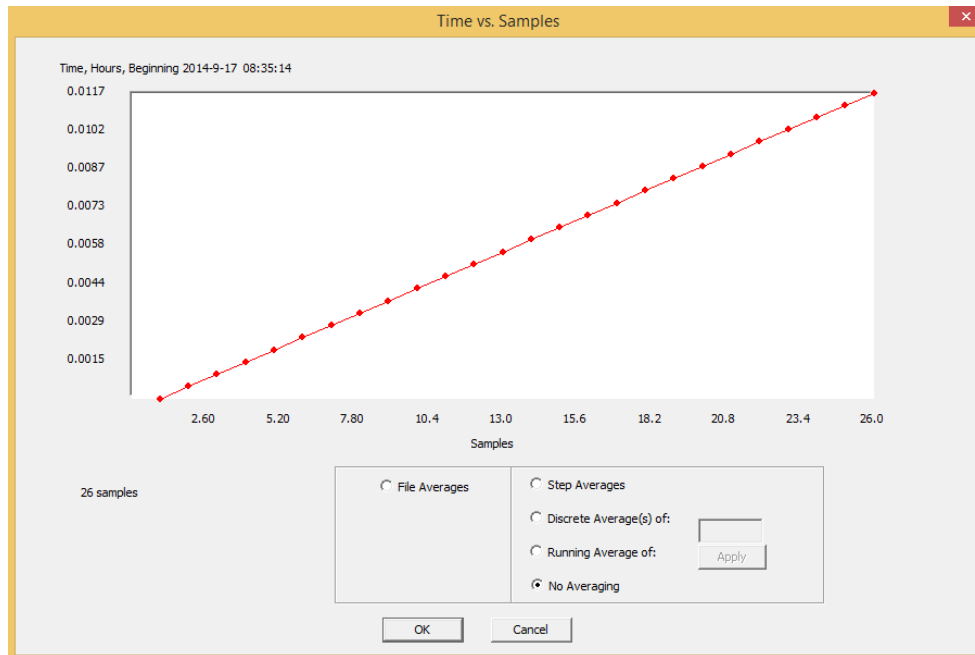

Figure 6.27: 'Time vs. Samples' graph for exporting to SAAView.
4. The 'Time vs. Samples' window will open, see **Figure 6.27**.